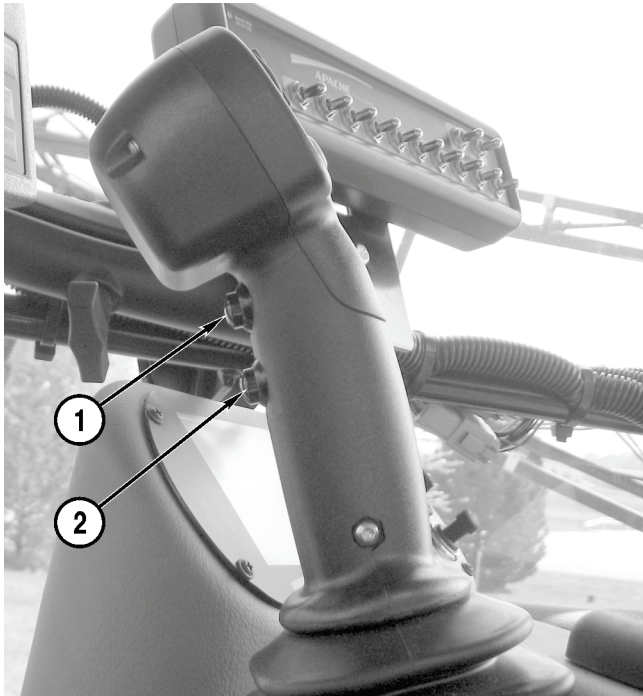

Figure 3-19
3. Squeeze and hold the top trigger button (**Figure 3-19, 1**) on the T-handle until the transmission shifts into first gear FORWARD.
- To obtain NEUTRAL from a FORWARD gear, squeeze either trigger button (**Figure 3-19, 1 or 2**) on the T-handle.
The Apache Sprayer is equipped with a torque converter. This allows the Apache Sprayer to take off in any gear. Once the Apache Sprayer is moving, you may upshift (**Figure 3-19, 1**) or downshift (**Figure 3-19, 2**) without returning the transmission to the NEUTRAL position. The Apache Sprayer is equipped with six forward gears. Be aware of speed ranges for each gear. Use the following Gear Speed Ranges chart for reference.